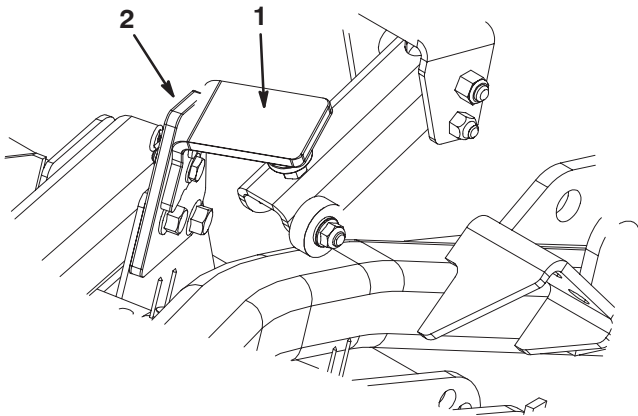

Figure 80
2. Remove the hairpin cotter and clevis pin securing the deck transport latch to the latch plate (Fig. 80). Pivot latch toward rear of deck.